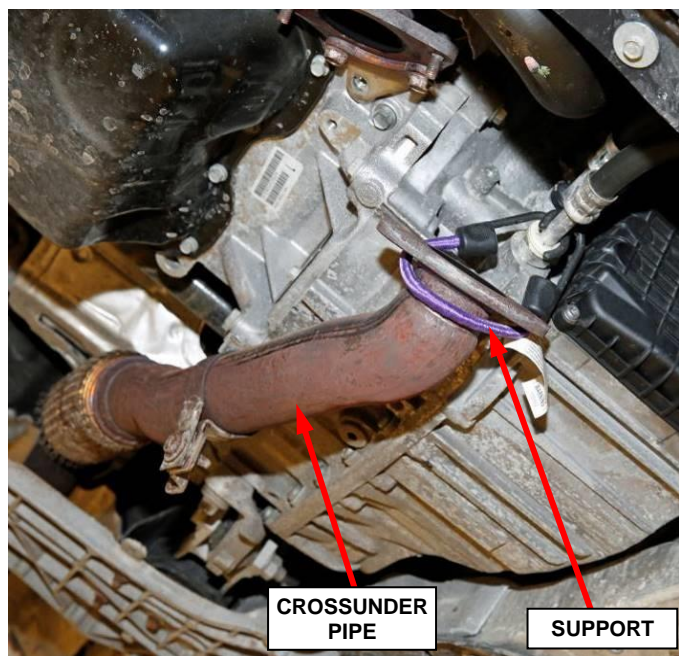

Figure 3 – Support Crossunder Pipe
- Disconnect the exhaust crossunder pipe from the maniverter and support the exhaust crossunder pipe to prevent damage to the flex joint (Figure 3).